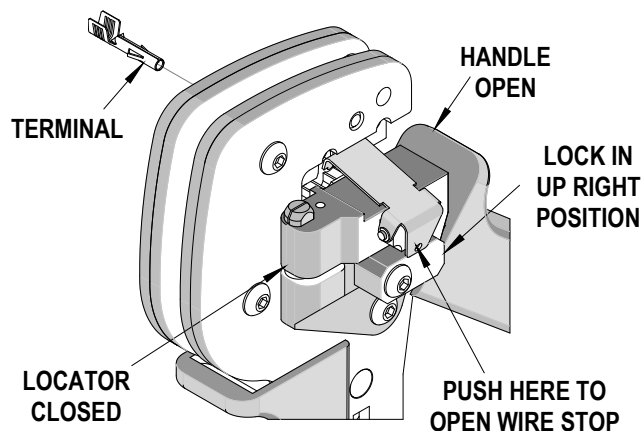

Figure 3
1. To raise the wire stop, press the tab on the wire stop as shown in Figure 3. Insert the proper terminal into the nest opening, and release the wire stop to lower it. Make sure when choosing the nest opening that it will correspond with the A or B profile on the hand tool.